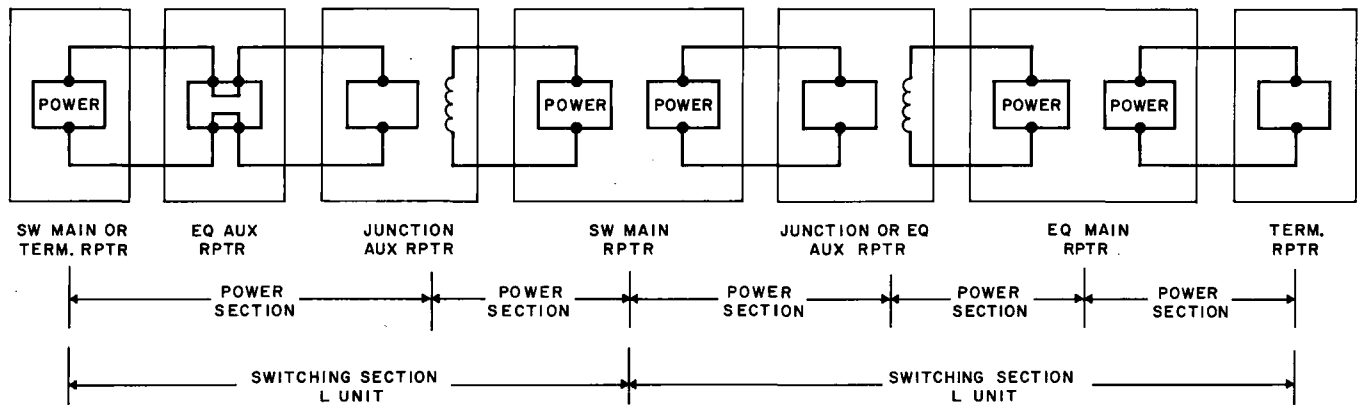

Fig. 1 — Typical Power Feeds
D. Pilot and Power Survey Measurements Note 1: After all the power sections within a switching section have been given preliminary pilot and power adjustments, as described in the preceding tests, the switching section is ready for pilot and power survey measurements (see Fig. 1). Note 2: Starting with the repeater adjacent to one of the pilot sources, the pilots are progressively adjusted. This will give the correct pilot levels in one direction of transmission and approximate levels in the other direction of transmission. The HTR 1 voltage is measured and readjusted, if necessary. On the return trip, detailed pilot and power survey measurements and adjustments are made, starting with the repeater adjacent to the other pilot source. These adjustments will correct the pilot levels in the opposite direction of transmission.